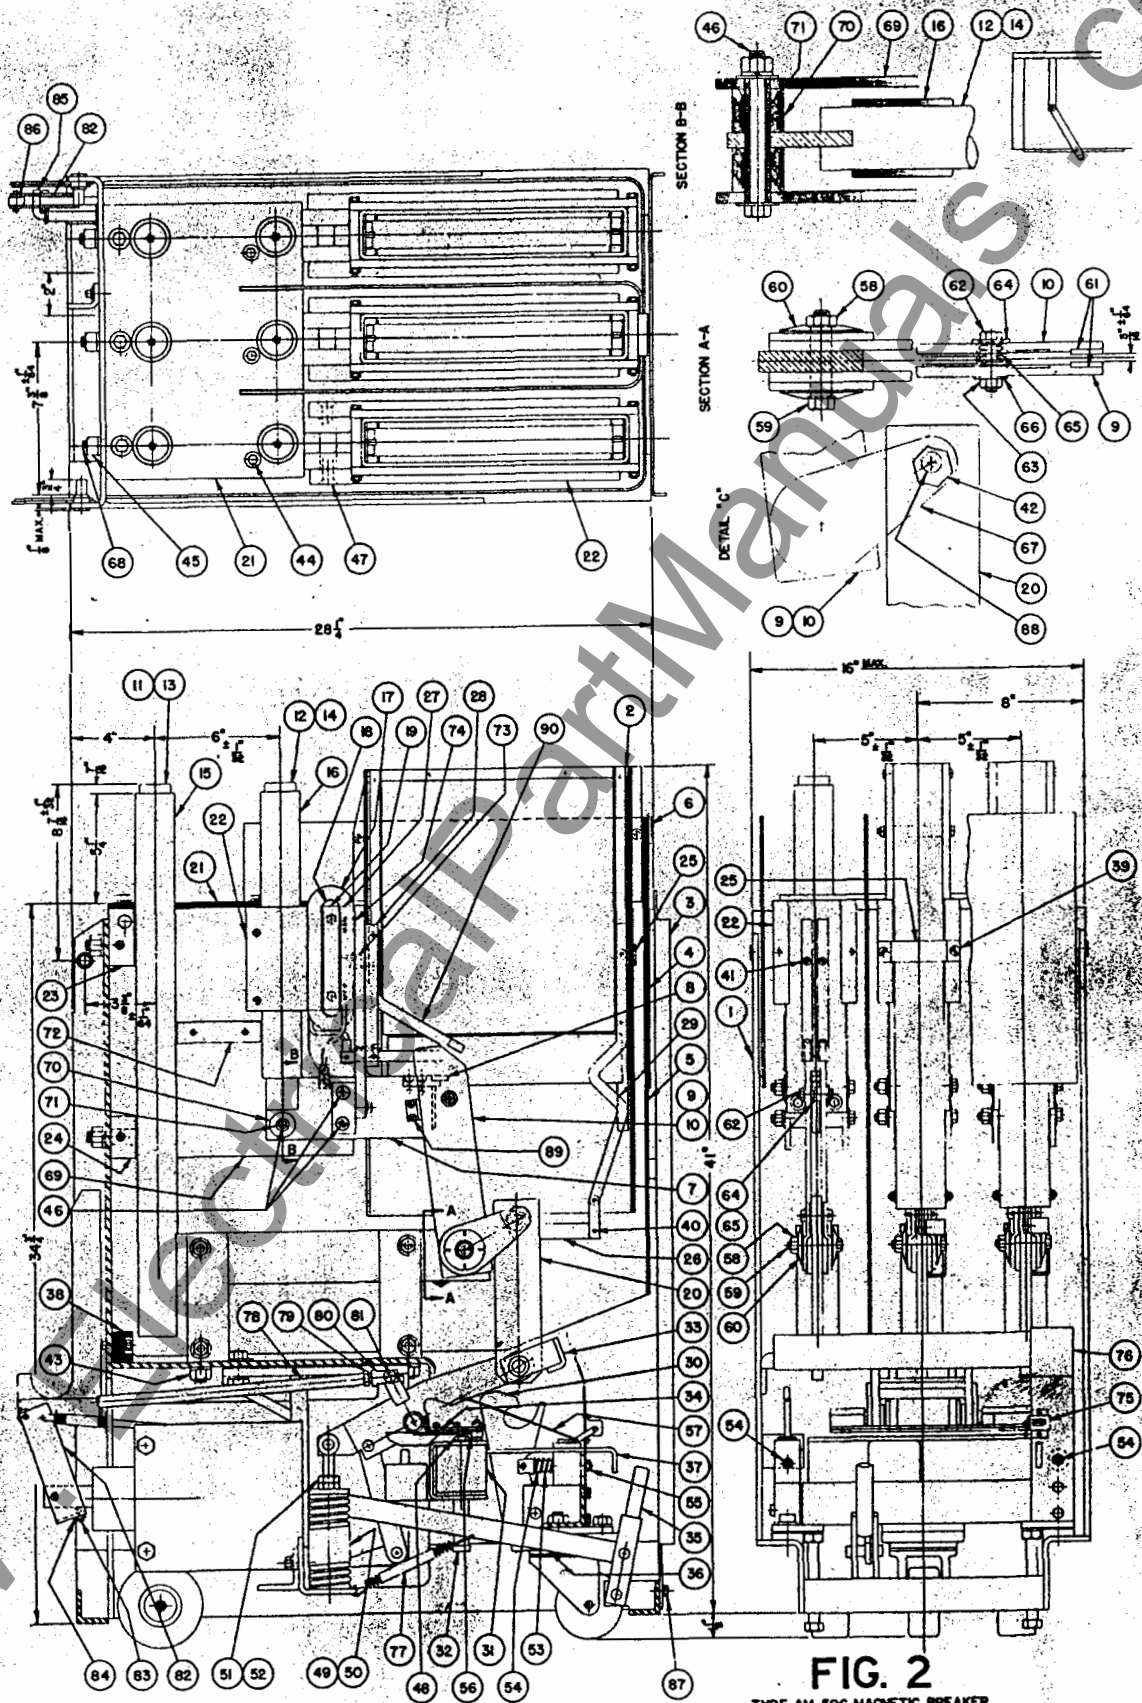

FIG. 2
13. Referring to Figure 2, the component parts of the breaker are mounted on a structural steel frame. The operator mechanism is mounted within the breaker frame and well shielded. The terminal studs are mounted vertically, are well shielded with bakelite tubing, and extend upward through the breaker top plate. The lower ends of the rear bushing studs support the movable contact arms, and the main current carrying contacts and tertiary contacts are mounted on the front terminal studs. The main arcing contacts are supported by insulating plates mounted in front of the blowout coils. The arc chutes are mounted between blowout plates and ahead of the front terminal studs.
20. The closing force is applied at the toggle roll (16) by means of the plunger (1). For manual closing the closing force is applied on link (11) by means of crank (17), the rotation of which is controlled through a link (36) (Fig. 2) to crank located at front of breaker. The toggle linkage (9) and (11) in moving to the final over-center position rotates links (10) clockwise about its fixed center "A" causing, through links (8), the counter-clockwise rotation of radius bar (2). The rotation of radius bar (2) causes, thru insulating rods (20) (Fig. 2), the movable contact arms to rotate counter-clockwise, thus closing the breaker. With the counter-clockwise rotation of the crosshead the impulse and accelerating springs (14 and 15) are compressed. The breaker is held in the closed position by the over-center position of the mechanism toggle which is restrained by latch (5), holding point "D" stable.
Electrically, a trip coil is energized which lifts its armature and trip pin to strike against and rotate the trip bracket (3) counter-clockwise. The breaker is tripped manually by pulling forward on the trip rod (37) (Fig. 2). The block attached to the trip rod engages and rotates the trip bracket. The counter-clockwise rotation of the trip bracket breaks the toggle formed by arm of bracket and link (4) and lifts latch (5) from latch roll (7). The lifting of latch frees the temporarily fixed point "D", releasing the coiled springs (14 and 15) which drive the crosshead (2) in a clockwise direction; this, in turn, pulls downward on connecting rod (20) (Fig. 2) to rapidly open the breaker.
22. With the lifting of latch (5), point "D" is driven upward and the toggle rolls (16) ride over a radius in operator frame, forcing the toggle to break on opposite side of center line. With the collapsing of the toggle, point "D" is snapped into position by means of spring (13) allowing the latch (5) to engage latch roll, holding point "D" stable for next closing operation.
- c.  The rebound latches (30) should be so adjusted that when breaker is opened slowly the brass rolls (52) will just clear the nose of latches (30) by 1/16 inch. Adjustment is made by positioning the "Stover" locknuts (55) on screws (54) until rolls clear nose of latches by the required 1/16 inch.
- d. A check on the alignment of contacts should be made before any operation of the breaker is attempted. When in proper alignment the stationary arcing contact (90) (Fig. 2), tertiary contact (8) and main contact (7) should be in the same vertical plane. The movable contact blades should be in alignment with stationary contacts and when fully closed their follow-up should be 1/32" on a side as they engage with the main arcing contacts (90), tertiary contacts (8), and main contacts (7). If any adjustment is necessary the tertiary contacts can be aligned with main contact by loosening the two socket head screws, positioning the tertiary contact and securing in position by tightening the screws. The arcing contact (90) can be aligned with main contact and tertiary contact by bending it slightly to the right or left, whatever is necessary. For the alignment of the movable contact arms, loosen nuts (43) under support blocks and by using the rear support block as a pivot point swing contact blades to right or left until properly aligned. When contacts are in alignment, check bushing alignment before tightening of nuts (43).
- e. The contact pressure of the isolating switch blades should be adjusted with reference to Figure 2. The first step of proper adjustment is to have the hinge joint adjusted so that with spring screw (62) loose, and isolating contacts in fully closed position, a pull of 5 to 8# with register on a spring scale when hooked over spring cup (64) to move contacts toward open position. The second step is to adjust so that a 3/16" \pm 1/64" diameter rod will just pass between the Elkonite tips on blades. Adjustment of the hinge joint is made with contact blades in fully closed position and spring screw (62) loose. Hooking a spring scale over spring cup (64) adjust the "Stover" locknut (58) until scale registers 5 to 8# as contacts are pulled toward open position. Then adjust "Stover" locknut (66) on screw (62) until tension of spring (65) is such as to permit a 3/16" \pm 1/64" diameter rod to pass between the arcing contact tips on isolating switch blades.
- f. The throw of the isolating switch contacts should be such that when breaker is closed by hand and contact blades are pulled back to take up pin slack, a clearance of $1/16"$ to $1/8"$ exists between bumpers (89) and edge of blades. If the required clearance does not exist, adjustment is made by removing pin (88) to disconnect operating rods (20) from crank (67), and rotating the eccentrically drilled hex bushing (42) until the clearance of $1/16"$ to $1/8"$ is obtained. Make sure all fastenings are secure on reassembly.
- g. The auxiliary switch located within the box of plug-in device has been adjusted correctly at the factory. However, before the breaker is put into service, a check should be made to see that the auxiliary switch crank throws equidistant on either side of a vertical centerline. The adjustment for throw of crank is made by positioning clevis (80) (Fig. 2) on operating rod (78).
- h. The limit switch located on the right-hand side of operator coil housing contains both the "a-a" and "b-b" stages of limit switch contacts. Correct adjustments have been made at the factory and no further adjustments should be necessary. However, a check should be made to see that there is a clearance of $1/16$ inch between head of screw (62) and end of limit switch plunger (65) when solenoid armature (4) is solid against pole head (11).
- i. The mechanical interlock crank located at back of breaker has been properly adjusted at the factory and no further adjustment should be necessary. However, a check should be made to see that the distance from the center of roll (6) (Fig. 1) crank to the centerline of rear bushing is $6-3/8" \pm 1/32"$, that the breaker trips in the first $3/8"$ of linear travel of roll as crank (82) (Fig. 2) rotates toward breaker, and that the total linear travel exceeds $3/4$ inch. Adjustments are made by first setting screw (83) until the distance from the center-line of rear bushing to centerline of roll on crank (82) is $6-3/8" \pm 1/32"$, and then adjusting the length of rod (85) by screwing it in or out of block on hand trip rod until the breaker trips within the first $3/8"$ of linear travel of roll as crank (82) rotates toward the breaker. Finally, check to see that the total travel of roll in rotation of crank is at least $3/4"$. After adjustments are made make sure all fastenings are secure.
42. When ordering replacement parts, refer to Figs. 2, 6, 7, and 8, and to the following Parts Lists. Specify quantity, reference numbers, catalog numbers, and give description of parts required. Also, give amperage, voltage and serial number of the breaker on which the parts are to be used.
EXAMPLE:--Refer No. 8, (Fig. 2), Catalog No. 73541GB,